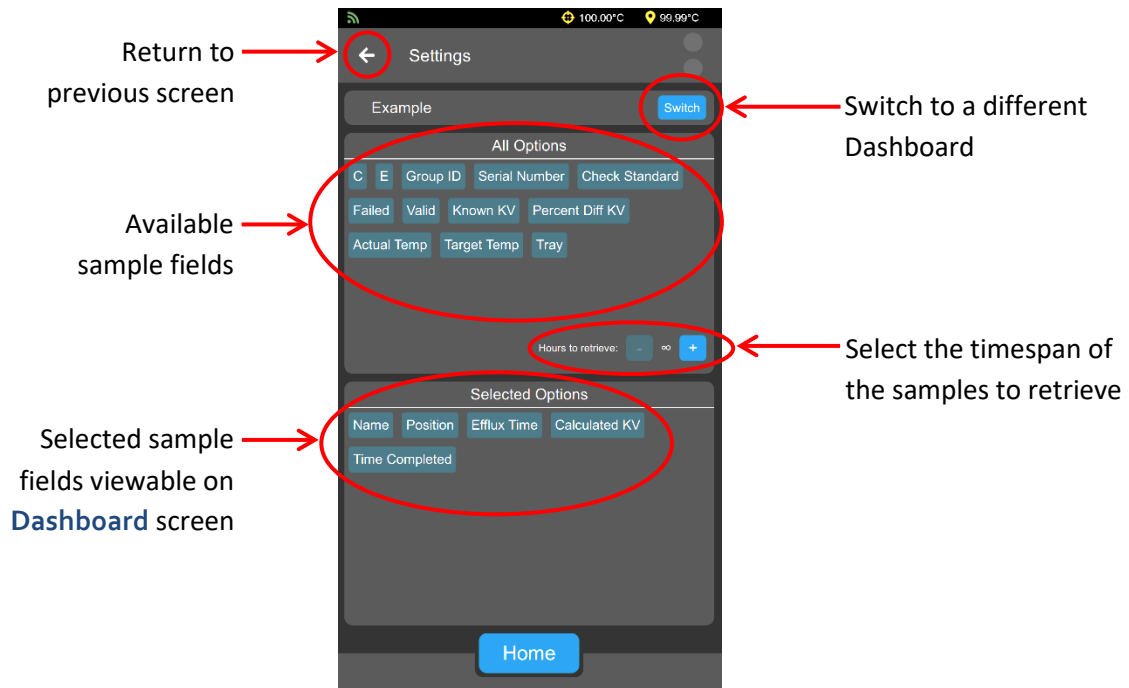

Figure 60: Dashboard Details Settings Page
5. Customize Dashboard settings by moving desired fields to **Selected Options** and setting the time range. See Figure 60.